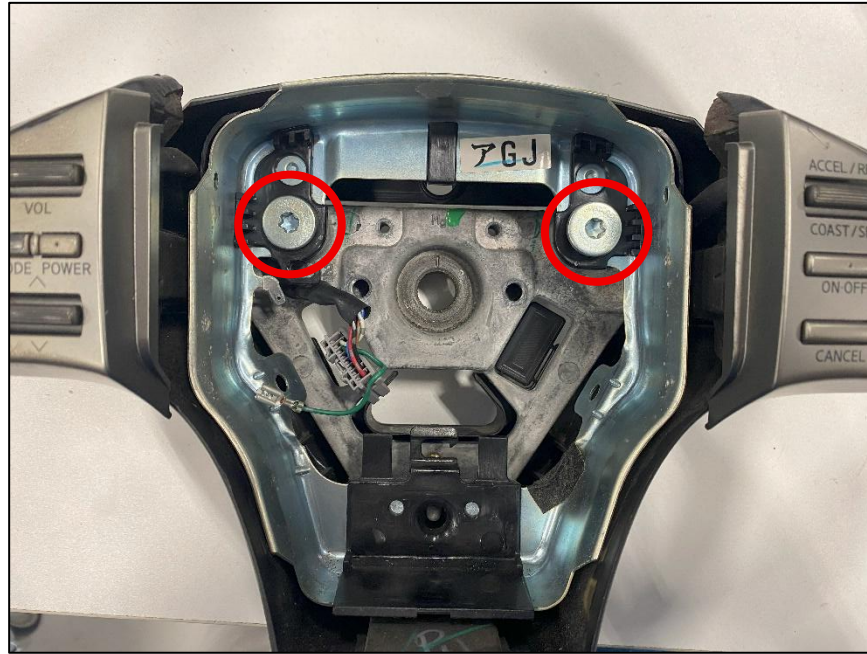

Figure 6
12. Remove the (2) two TORX Screws securing the Airbag Panel to the Steering Wheel. These need a T40 TORX Bit. *Figure 6.*